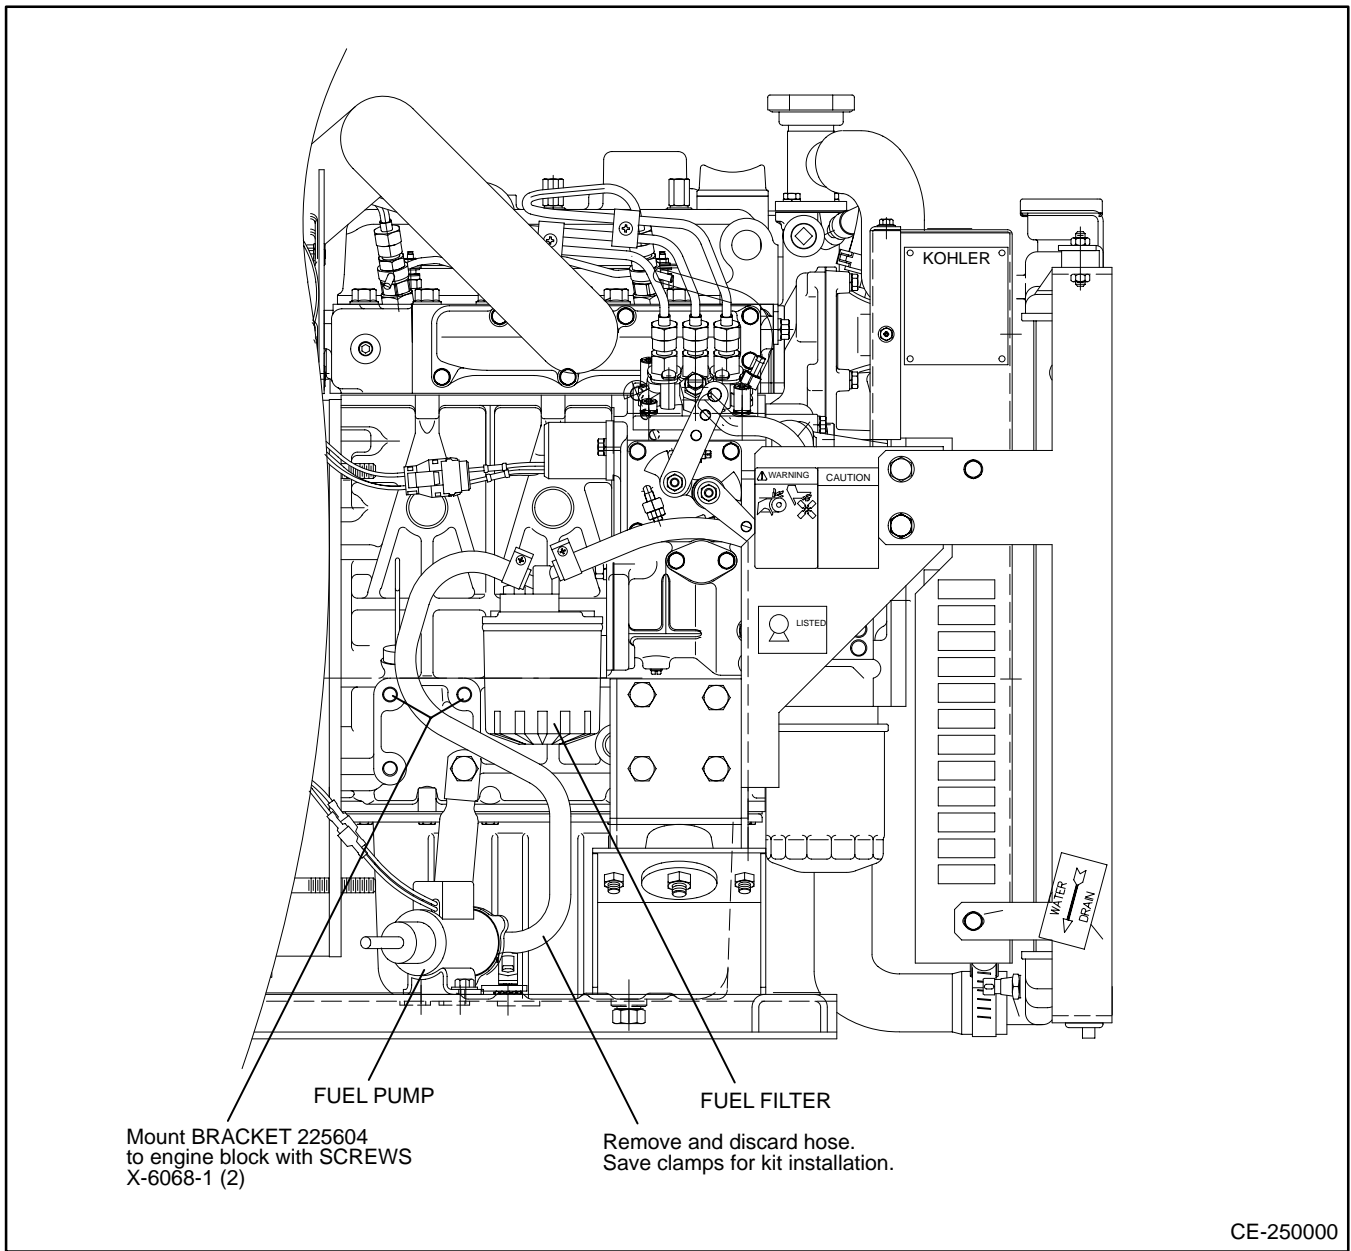

Figure 1. Install Water Filter Mounting Bracket
2. Install bracket (225604) on engine with two 10 mm screws (X-6068-1). See Figure 1.